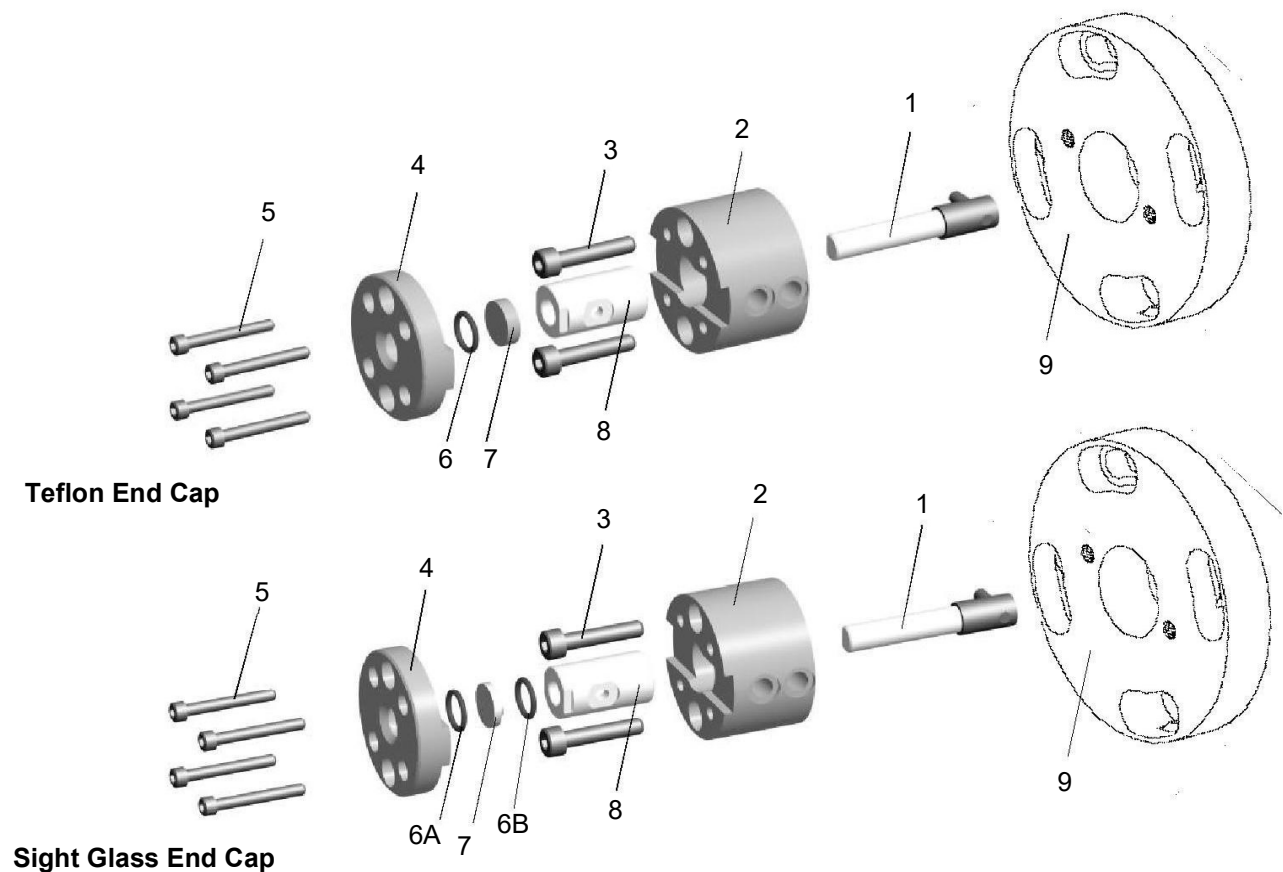

Figure 7.2 Micro SL Pump Module Components Assembly/Disassembly
7.5. MAINTENANCE (Figure 7.2)
7.5.2 O-Rings (Figure 7.2)
7.5.3 Assembly/Disassembly Procedures (Figure 7.2)
7.5.3.2 End Cap Retainer, End Cap and O-rings (Figure 7.2 items 4, 7 and 6)
7. Position end cap retainer (4), with installed components into the recessed diameter of case (2).
8. Secure with four #4-40 socket head cap screws (5) and torque screws (5) to 5 in lbs.7.5.3.3 Case, Cylinder and Piston (Figure 7.2 Items 2, 8 and 1).
1. Slide cylinder (8) into case (2) as shown in Figure 7.2.